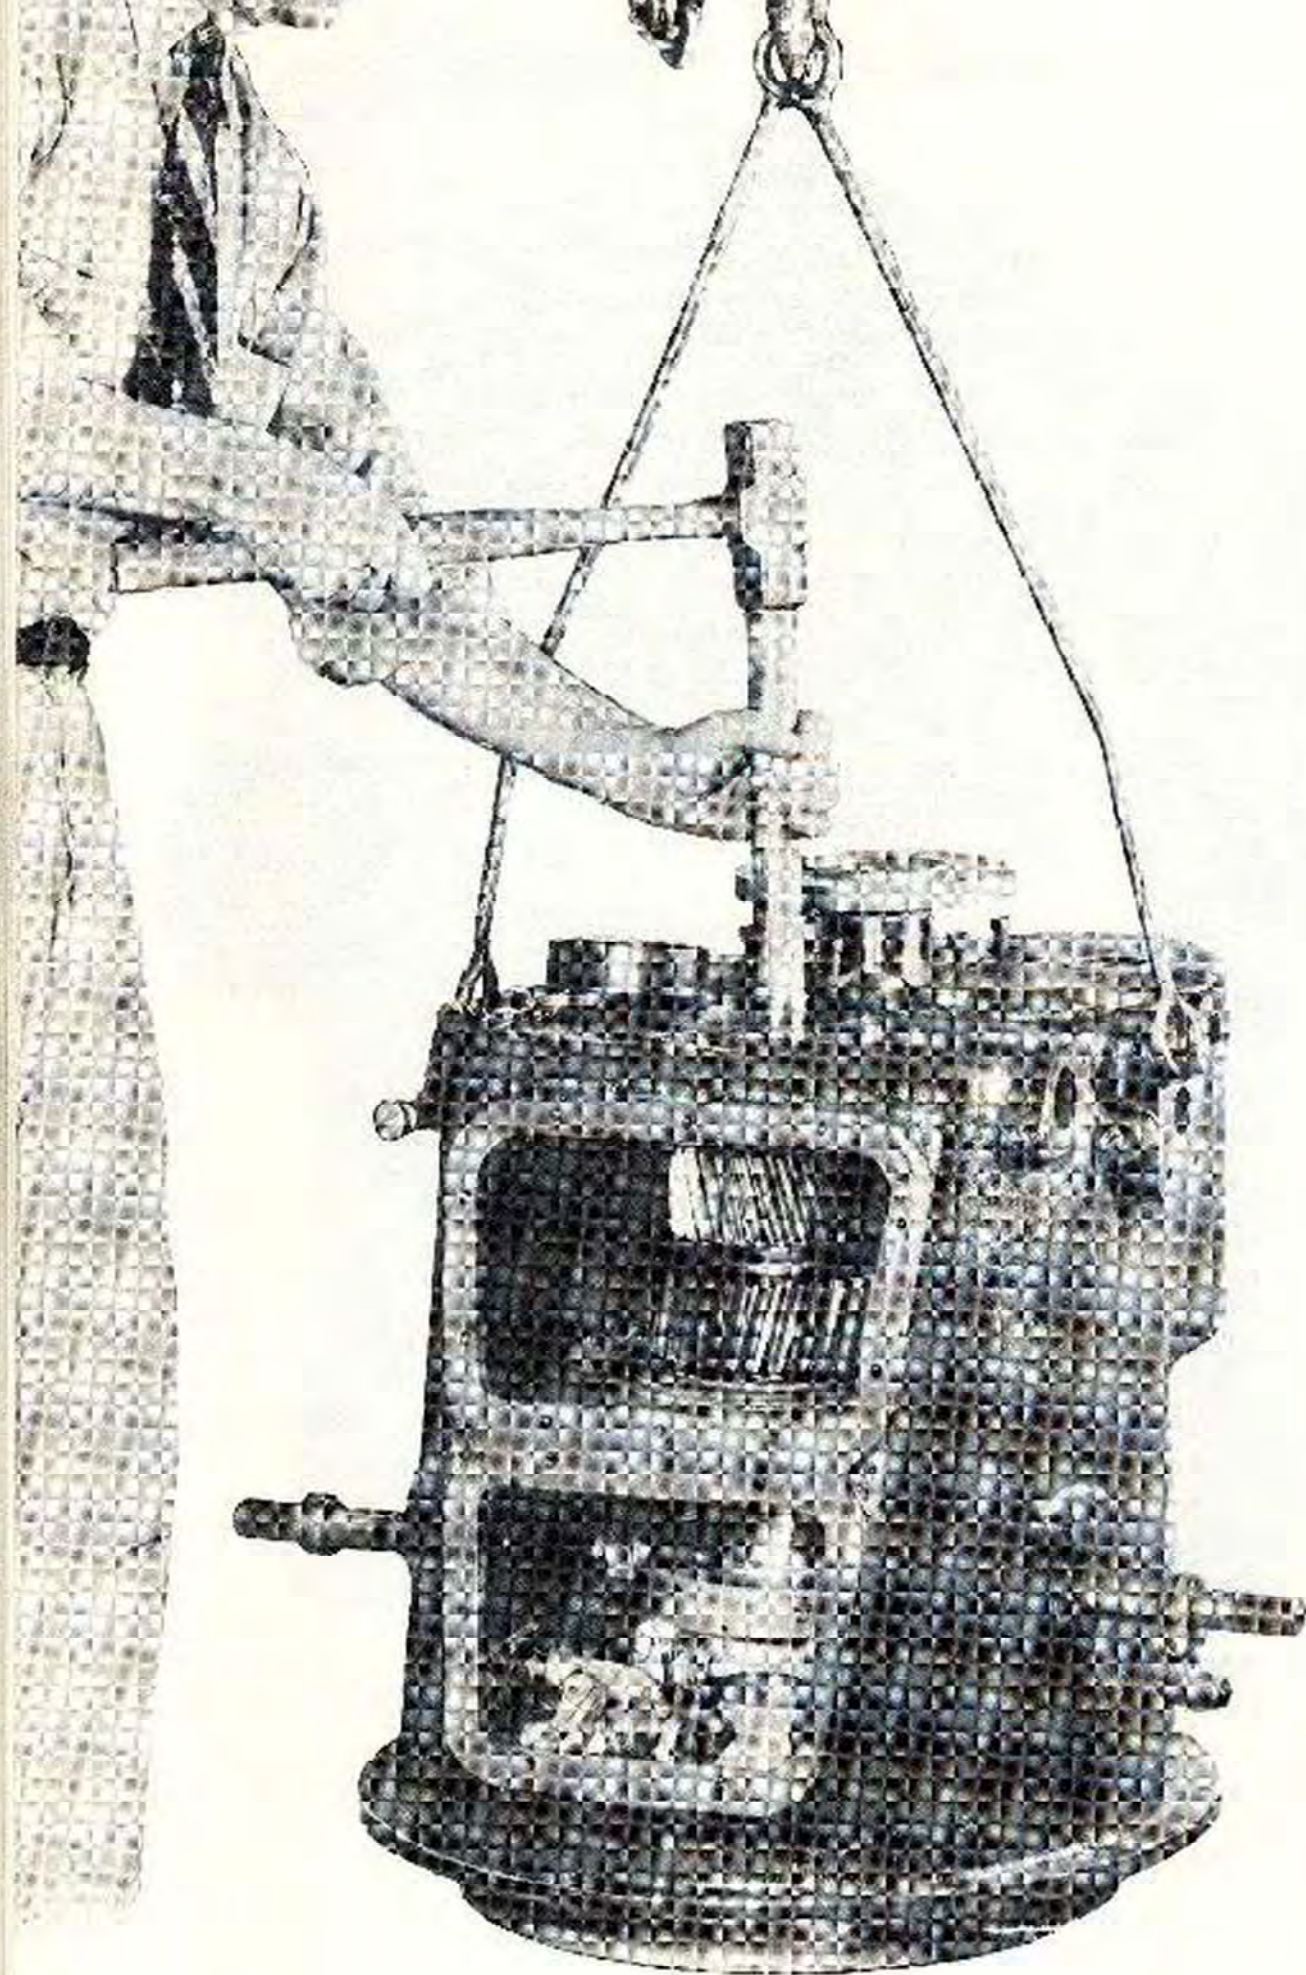

FIGURE 20
Stand Marine Gear on end and block under housing so that back plate clears floor approximately one inch. Drive the clutch assembly out of the housing by driving against the end of the reverse shaft as shown in Figure 20.
9. Stand unit on end and raise housing off the floor as is indicated in Figure 20, page 32.